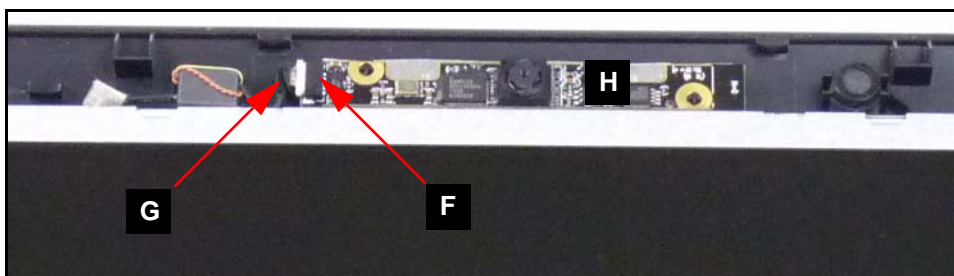

Figure 3-61. CCD Module Removal
2. Remove module cable (G) from module connector (F) as shown in Figure 3-61.
1. Install and secure module (H) to LCD module cover (Figure 3-61).
2. Install module cable (G) to module connector (F).